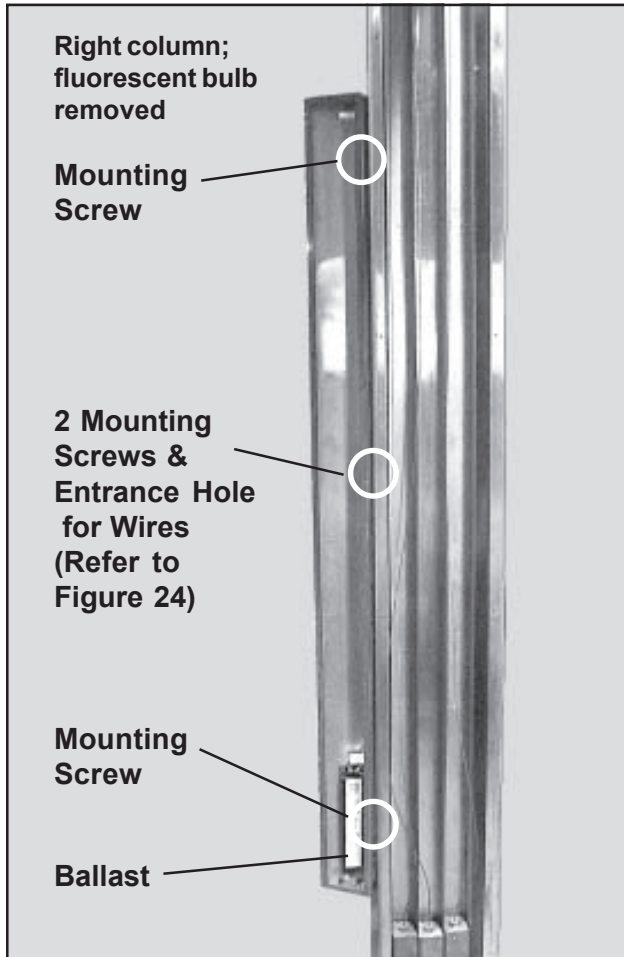

Figure 23. Light Fixture Mounted on Column
6. Disconnect the black and white wires from the column to the light fixture wires (Figure 23). (Cable B from the left column or Cable C from the right)